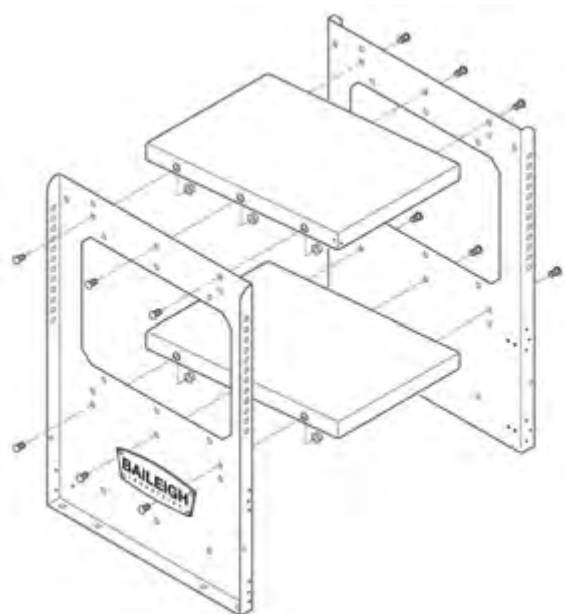

Figure 4-2
2. Using twelve M8 x 20 Round-Head Square-Neck Carriage Bolts (item #2) with M8 Flanged Nylock Hex Nuts (item #4), attach the two Angled Shelves (item #18) to the Side Panels (item #14) as shown in Figure 4-2. **Do not fully tighten nuts at this time.**